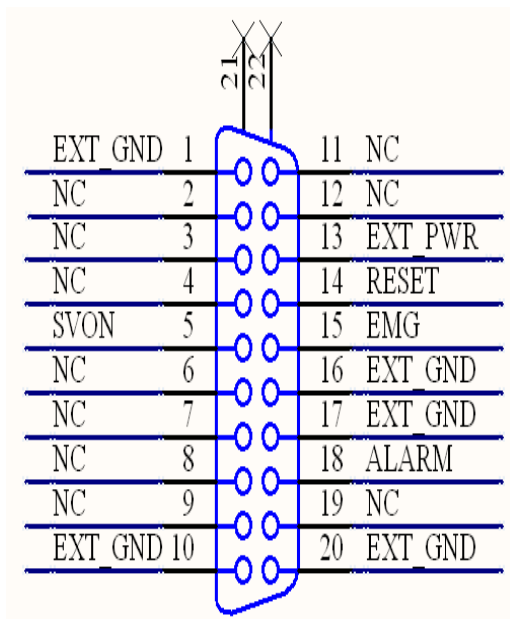

Fig B2-6 Pin definition for CN-XB, CN-YB
■ CN-XB & CN-YB (Fig B2-6 connector for each AXIS)
The connectors CN-XB and CN-YB are 20-pin connectors that enable you to connect to the CNB connector of your motor drivers. Fig.B2-6 shows the pin assignment for the 20-pin connector on the DN-8237-MB, and the Table B2-6 shows its I/O connector signal description.